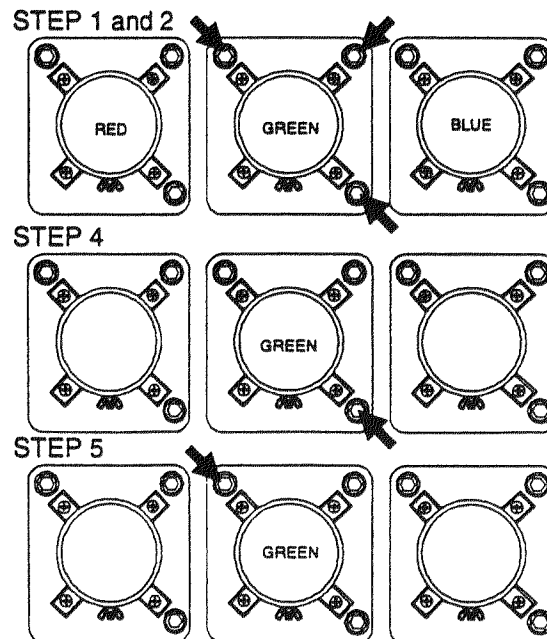

FIGURE 5-2.
- STEP 1. Tighten all three lens adjustments, then turn counterclockwise 3/4 of a turn. Refer to Figure 5-2.
- STEP 4. **GREEN ONLY !** Adjust the lower right lens adjustment until the upper right corner of the image is focused. See Figure 5-2. Repeat lens focus procedure if necessary at this time.
- STEP 5. **GREEN ONLY !** Adjust the upper left lens adjustment for side to side focus. See Figure 5-2